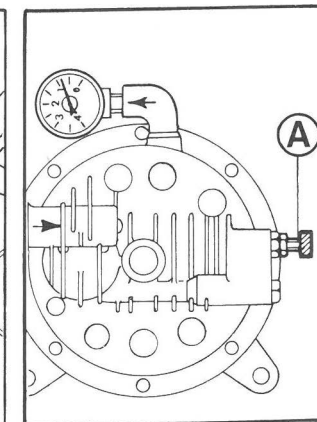

Fig. 81
– Régler l'afflux du gaz, avec le moteur arrêté, au moyen de la vis « A » (Fig. 81).
– Adjust gas outflow, with engine stopped, acting on adjusting screw (A) (Fig. 81). Connect a pressure gauge to outflow elbow and see that gas pressure does not exceed 10 ÷ 15 mm of water column. Similarly, with soap foam applied to outflow, see that bubble made by gas swells slowly, if pressure gauge is not available. Tubes must be free from surface cracks and wear marks to avoid gas leaks. Tube connections should be as short as possible to avoid liquified gas pockets; avoid sharp bends to prevent strangling of gas flow and union leaks.
– Gasabfluss bei stillstehendem Motor durch Schraube (A) (Abb. 81) regulieren. Der Druck darf 10 ÷ 15 kp/cm² nicht überschreiten. Kontrolle durch Druckmesser oder Seifen-Blase, die sich beim Ausströmen des Gases langsam blähen muss.